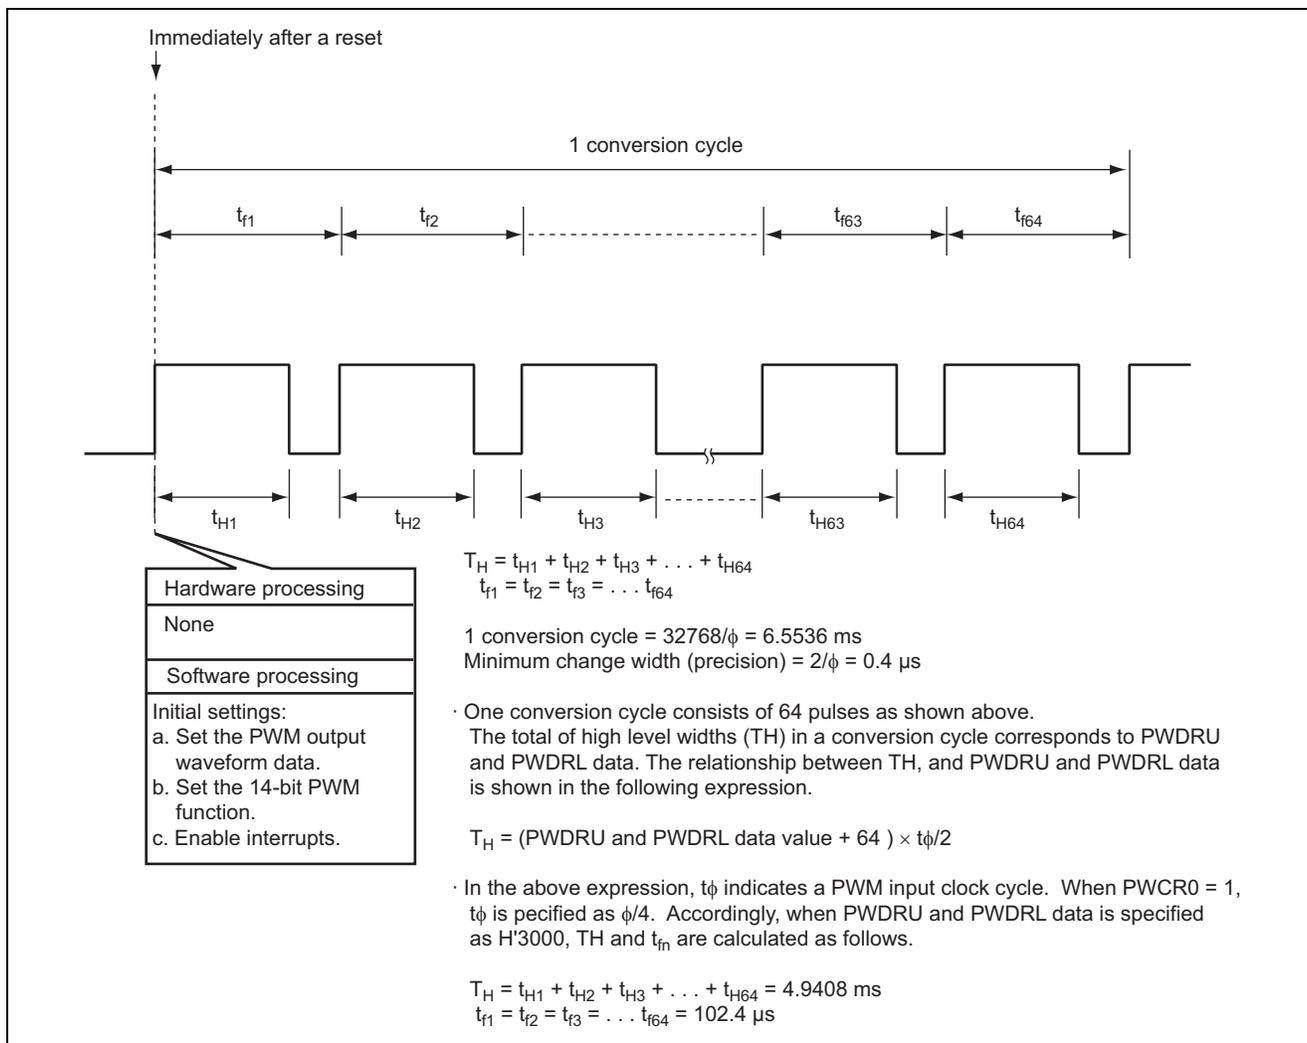

Figure 3 Operation Principle of duty-cycle pulse Output by 14-Bit PWM Function
- Figure 3 illustrates the principle of operation of this sample task. The hardware and software processing shown in figure 3 applies the 14-bit PWM function to output a variable-duty-cycle pulse.